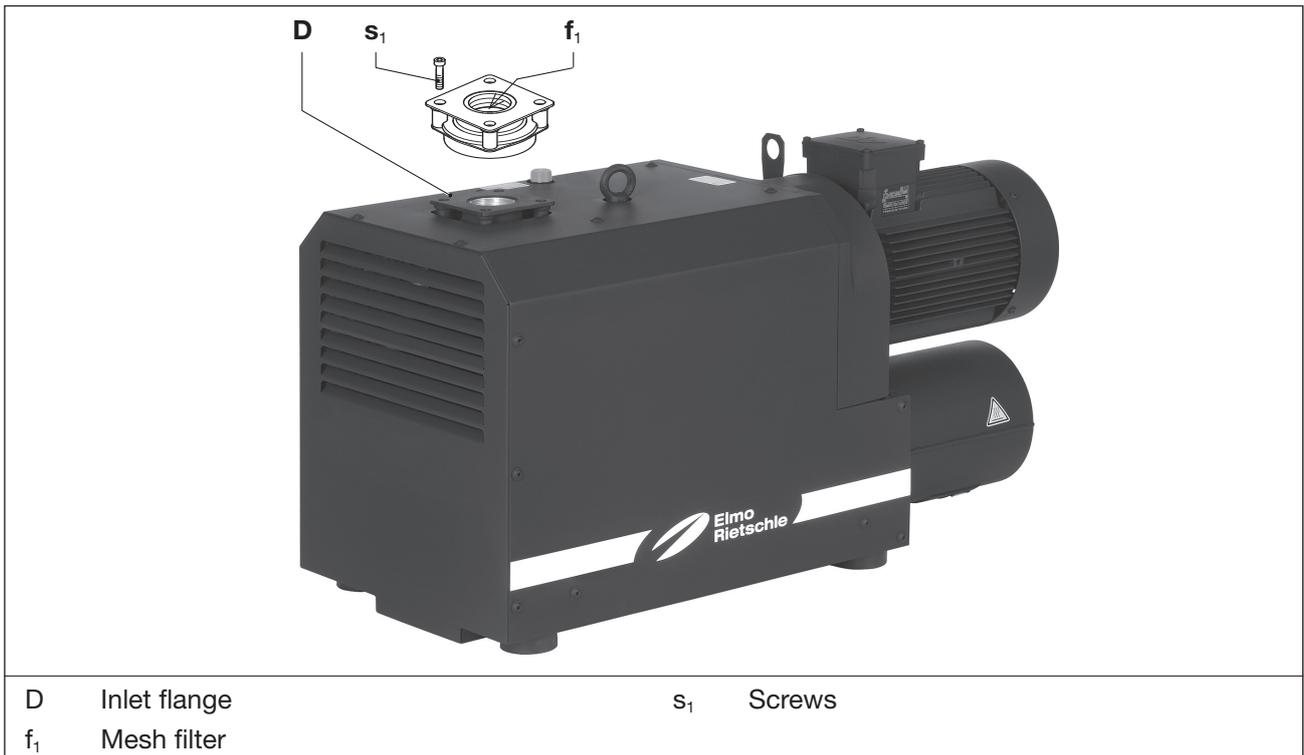

Fig. 6 Mesh filter
- Take off the inlet flange (Fig. 6/D) after releasing the screws (Fig. 6/s₁).
- Clean the mesh filter (Fig. 6/f₁). Also check the valve seat for contamination.
- Remount the inlet flange (Fig. 6/D) and retighten the screws (Fig. 6/s₁).